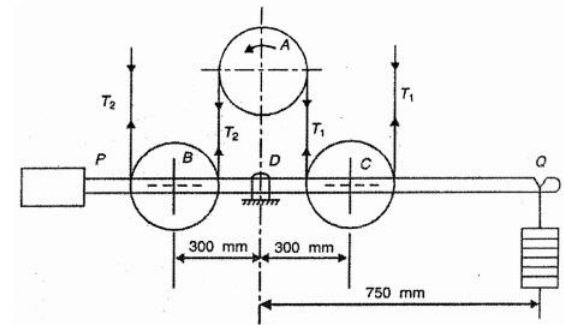

Figure 3
- (b) The essential features of a belt transmission dynamometer are shown in Figure 3. A is the driving pulley which runs at 600 rpm. B and C are jockey pulleys mounted on a horizontal beam PQ pivoted at D about which the complete beam is balanced when at rest. E is the driven pulley (not shown). Pulleys A, B, and C are of diameter 300 mm each. And the portion of belt between pulleys are vertical. Find the under mentioned values if the coefficient of friction is 0.2 and maximum tension in the belt is 1.5 kN